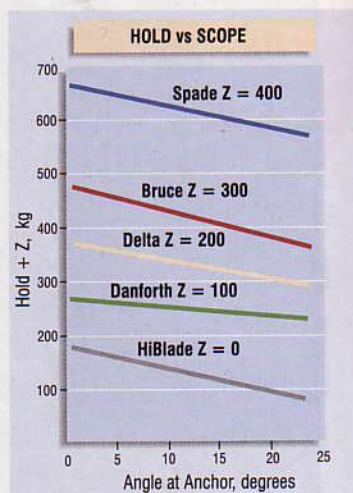

FIGURE 1 Dependence of hold upon Scope for 5-7 kg Anchors and 2 kg Danforth, ploughing at 3 cm/sec
■ We all know that the hold of an anchor reduces as the scope decreases and that the greatest hold is achieved when the cable is horizontal. But, by just how much does the hold decrease with scope, and do all anchors perform similarly? Although one of the functions of chain is to keep the cable close to horizontal, as soon as there's real tension, it runs more or less straight from the anchor to the stemhead. Consequently, it leaves the anchor at a finite angle to the seabed. This is the normal situation when you're worrying whether your anchor will hold. In all my experiments, the cable was straight between the anchor and pulley, whether it was nylon or wire. So, the scope (S/D) was simply related to the angle ( $q$ ) that the cable makes with the seabed, by the equation:  $S/D = 1/\sin q$ . I also made sure the anchors were launched and initially pulled at the scope required for any particular test. So, when working at a scope of three, I'd launch the anchor at this scope, and pull it at the same scope for six to eight shank lengths in order to establish its plateau hold. A standard drag rate of about three centimetres per second was maintained throughout. This is about 1/20 knot, so is extremely slow relative to any boat speed. Figure 1 plots plateau values against the angle ( $q$ ) at which the cable leaves the seabed. Selected scope values are
Figure 1 includes data only for the roll-stable anchors, plus the 2 kg Danforth which was stable when engaged symmetrically. Unfortunately, it was impossible to provide consistent data for the unstable plough and Brittany anchors. As expected, the hold decreased as the